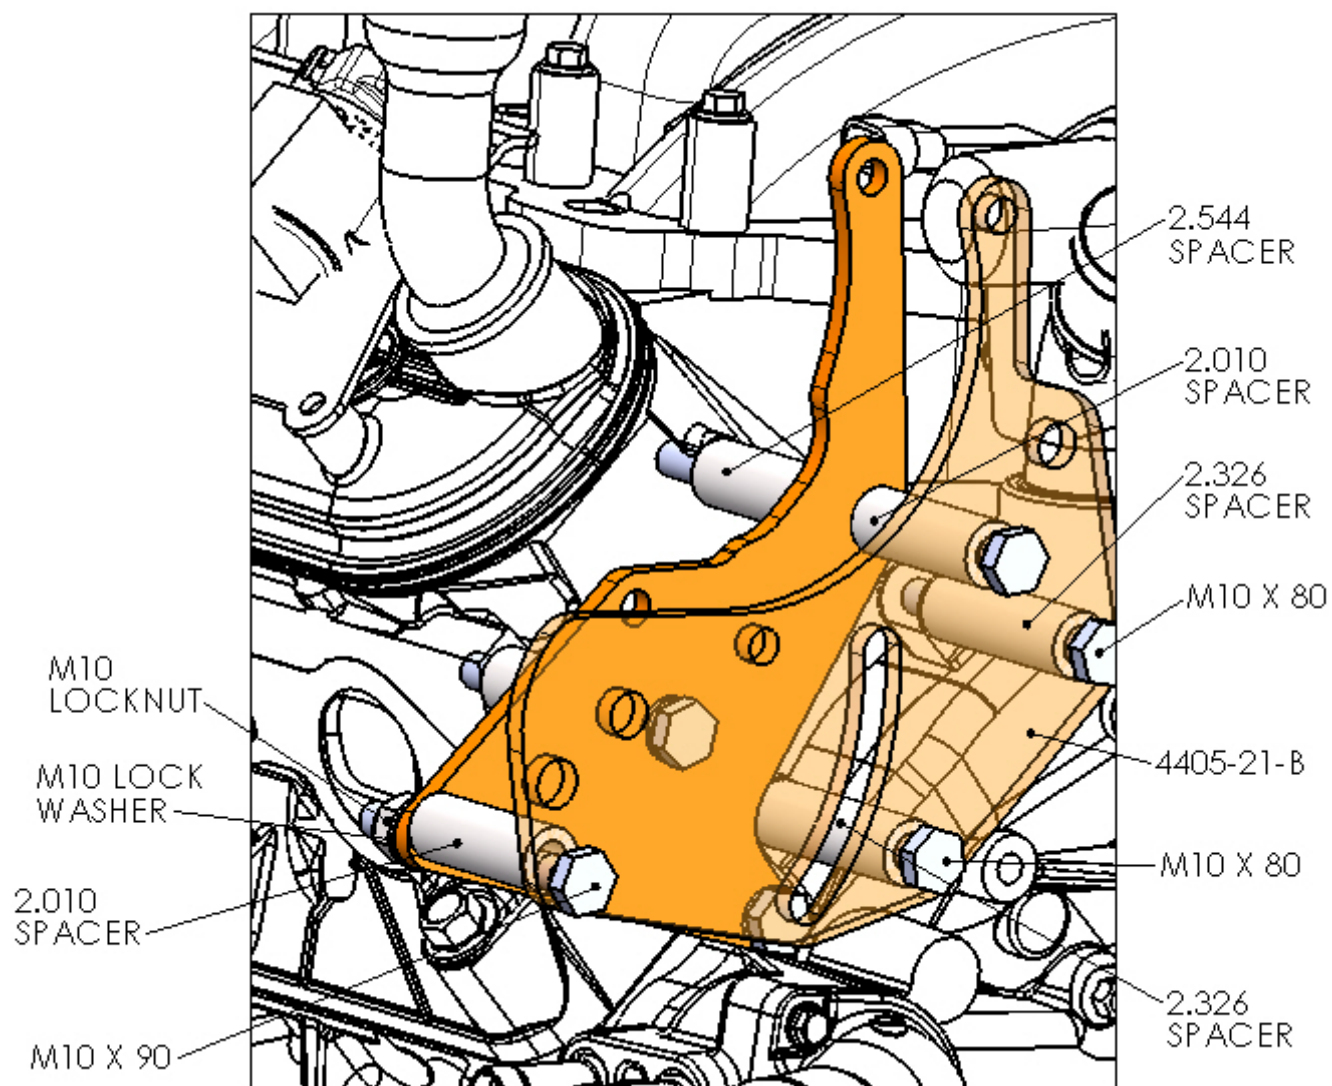

Figure 1
10. Install the M10 x 90 bolts thru the 4405-23 idler spacer, 4405-21 front bracket, 2.010 spacer, 4405-22 rear bracket. Refer to figure1 as a guide. If you are using the manual tensioner, you will not have the 4405-23 idler spacer.